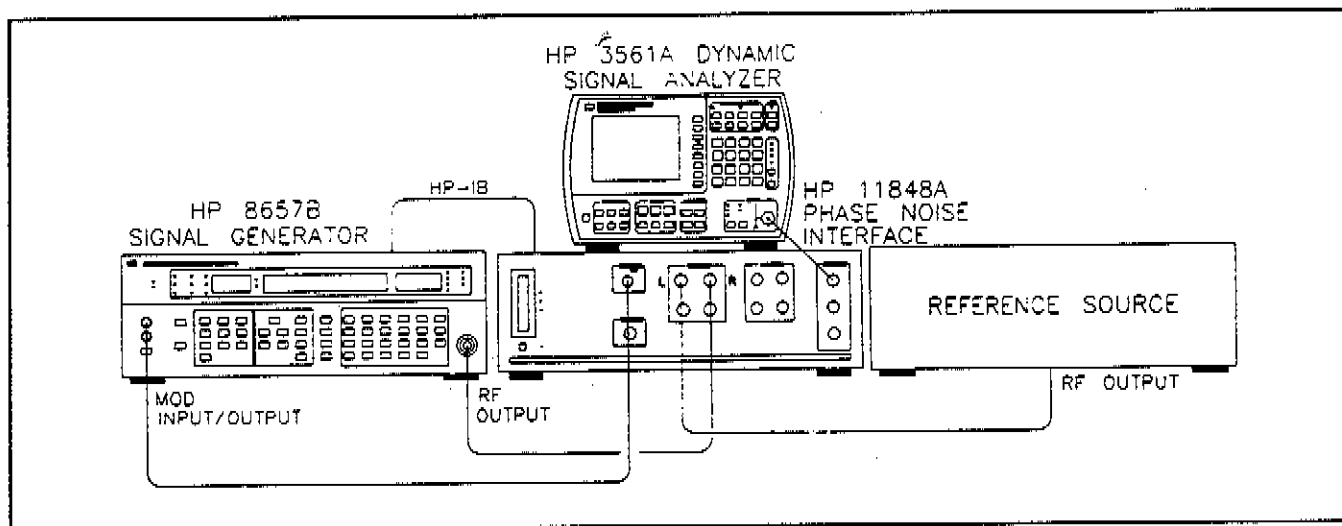

Figure 4-7. Setup Diagram for SSB Phase Noise Measurement
12. When the hardware connect diagram appears in the display, connect the Signal Generator and reference source to the HP 3048A as shown. (Note that the reference source is labeled **USER'S DUT** on the screen. Figure 4-7 also shows the cable connections for this measurement.)